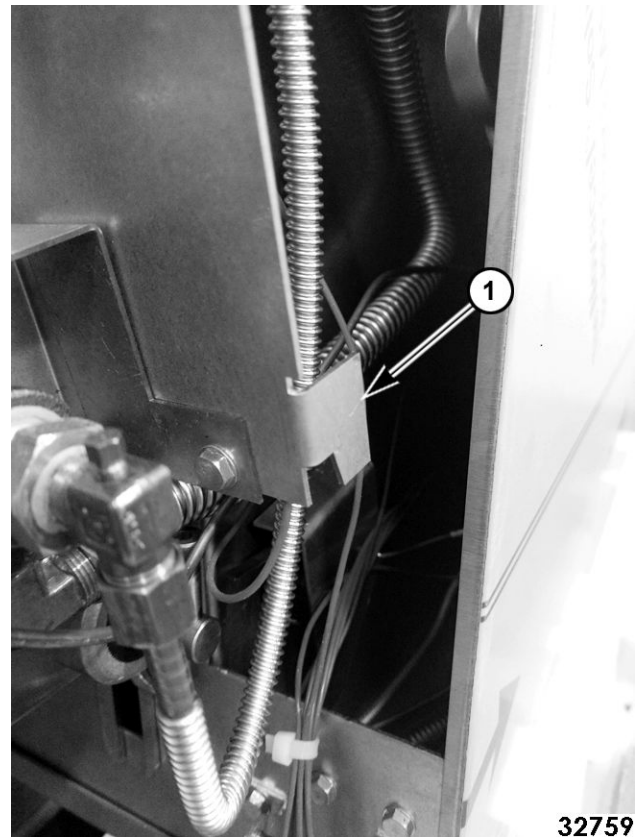

Fig. 35
6. Lift up gas mount bracket to release hook (1, Fig. 35) off inner tab (1, Fig. 35). Pull out pilot safety valve and temperature control bracket assembly from oven.